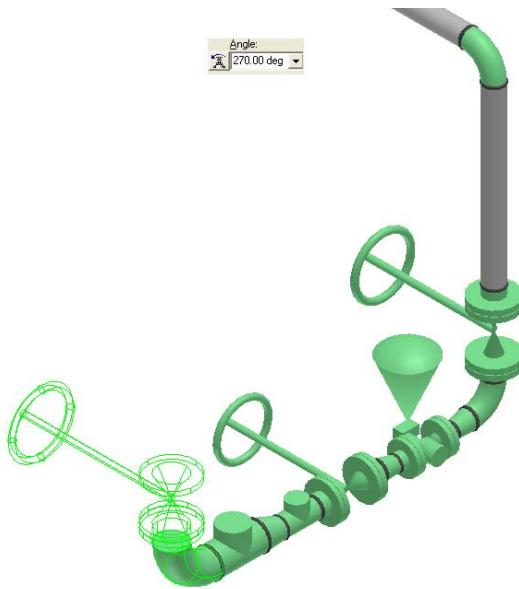

Figure 85: Gate Valve in the Graphic View
42. Now insert a gate valve by rotating it by **270 deg** so that the gate valve operator is facing the north direction, as shown in Figure 85.